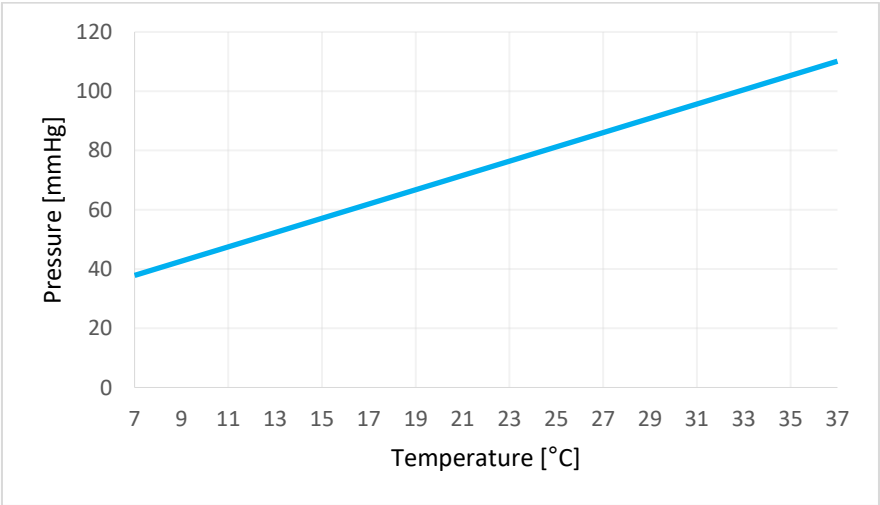
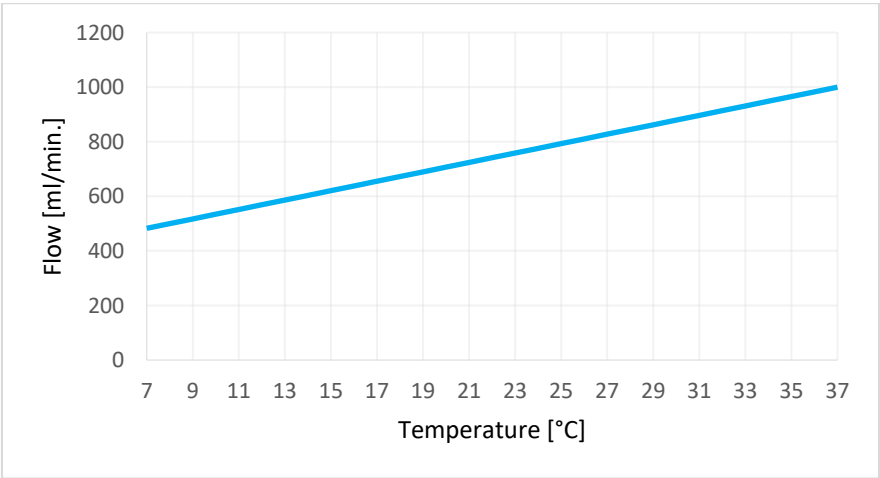

Figure 30 Pressure limits at varying temperatures
Figure 31 Flow limits at varying temperatures
- Place the second lid over the reservoir and ensure the orientation is correct, the red arrow on the bottom of the label should point in the direction of the Pump Unit, see Figure 30.
The Kidney Assist is equipped with temperature dependent limits for flow and pressure to prevent damage or organ loss. These values are preset and cannot be changed. In case a limit is reached, the device will reduce pump speed to maintain safe perfusion. Permittable pressures at varying temperatures are shown in Figure 30. Permittable flows at varying temperatures are shown in the Figure 31.